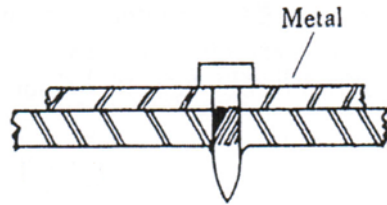

Fig. 20
D. Fastening metal permanently to steel (Figs. 20 & 21).